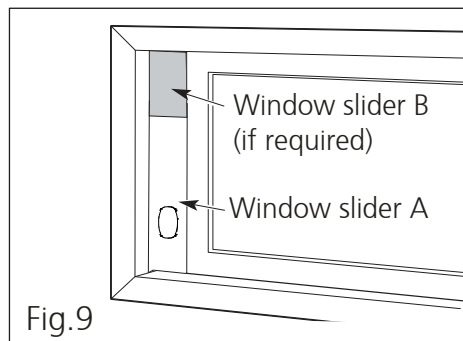

Fig.9
3. Insert the window slider assembly into the window track. If the hose opening is covered by the window frame, rotate the panel so the thicker side faces the window frame. (see Fig.9)